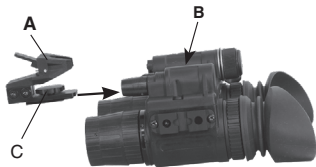

FIGURE 3-1
- 2) Insert the head/helmet mount adapter (A) to mounting bracket of PS15 (B), then tighten adapter screw (C) firmly (Figure 3-1).